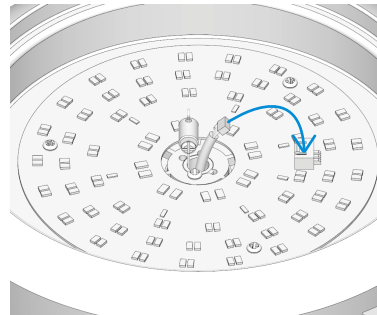

Fig. 2.2
2.2 Connect the wire plug to the light kit's terminal block as demonstrated in Fig. 2.2.